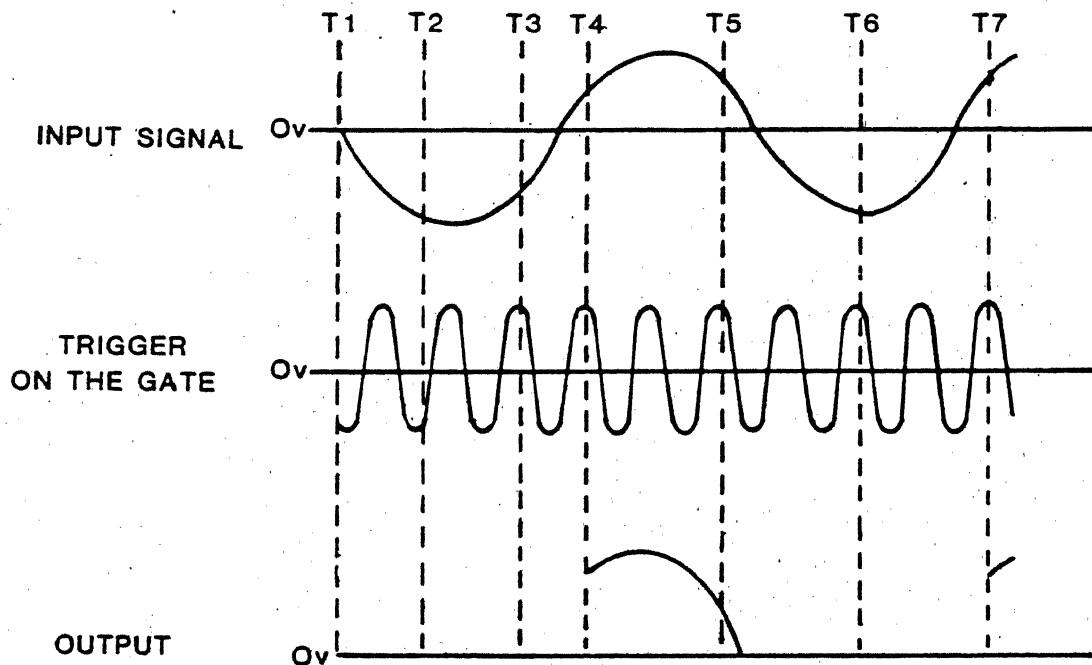

Figure 3
When the output voltage from the supply is zero (0), or front panel control adjustments provide no effect, you must take voltage measurements on one or more of the four test points on the PC 201 card. Figure 3 shows the position of the test points on the PC 201 transistor regulator block diagram.
The waveforms shown in Figure 3 show pictorially how the SCR operates with an AC input.